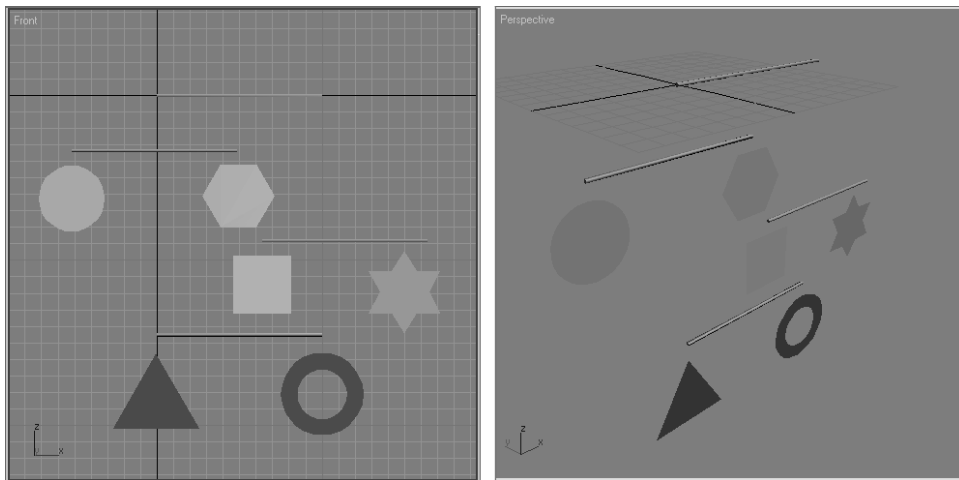

Figure 2.20
11. Create four more shapes and place them to line up under the ends of the remaining bars as shown in Figure 2.20. You will need to create and extrude the remaining four shapes all at about the same size (radius of 20). The following table shows you the remaining shapes and what Object Type button to use to create them and what their names will be in the scene. It's important to keep the naming as printed here to avoid any confusion when we begin to set up the hierarchies for animation: